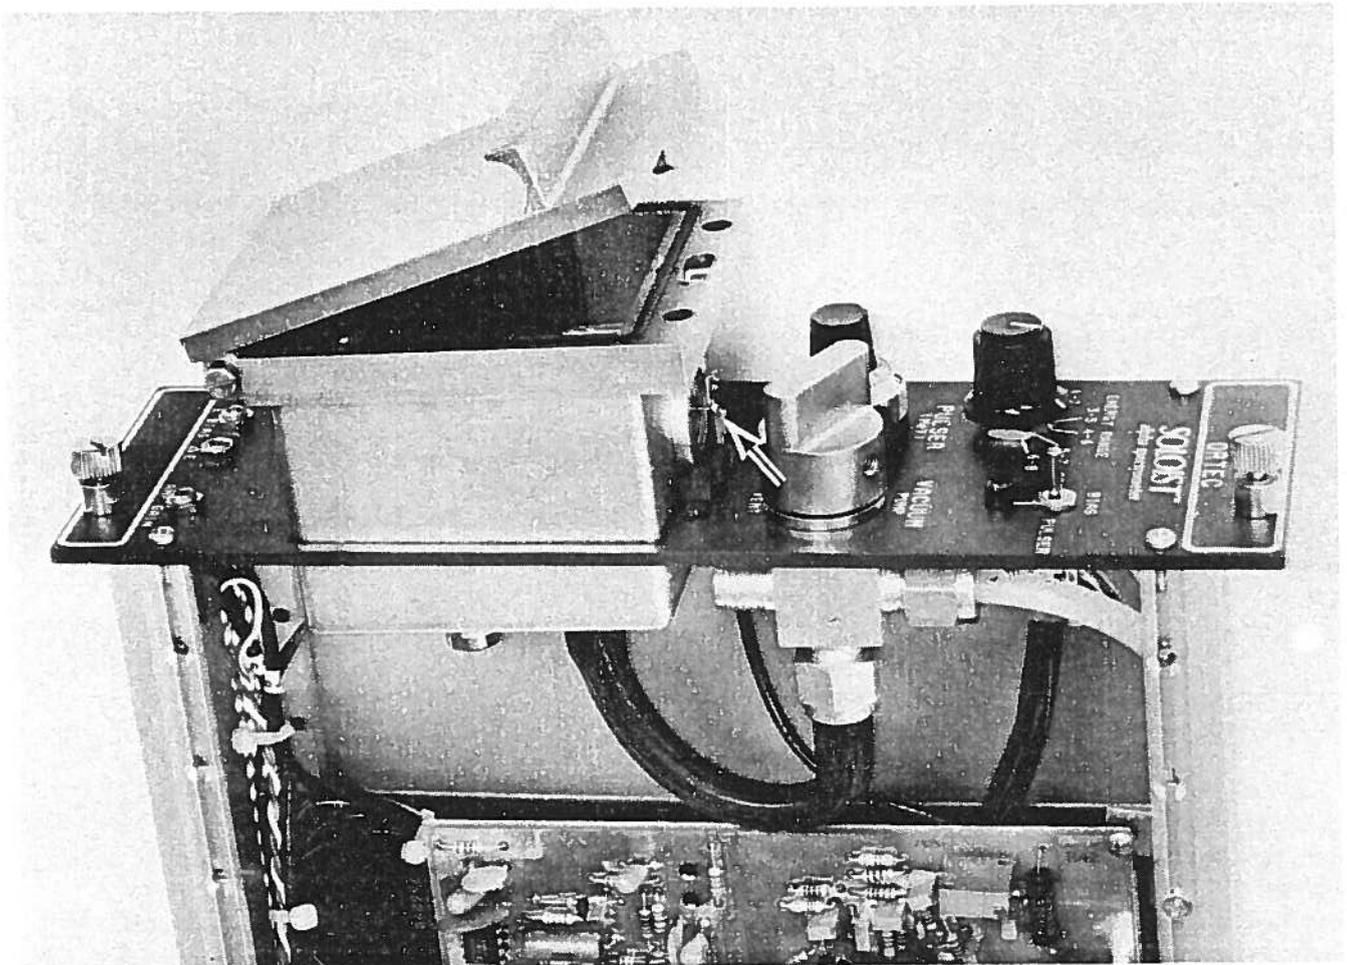

Figure 6.1. Vacuum Chamber and Coaxial Cable Connection.
8. Unscrew the slotted screw holding the ground wire of the coaxial signal cable about one turn. Do not remove this screw. Remove the ground wire connector. Note if and where a plastic cable tie is used to tie the cable to the vacuum hose and then cut the cable tie. This frees the coaxial signal cable. See Fig. 6.1.
The vacuum valve is connected to each vacuum chamber with a neoprene vacuum line (see Fig. 6.1). When the vacuum valve is in either the HOLD or VENT position, the chamber is isolated from the vacuum manifold. Most vacuum problems can be easily isolated using a systematic approach starting at the chamber valve.